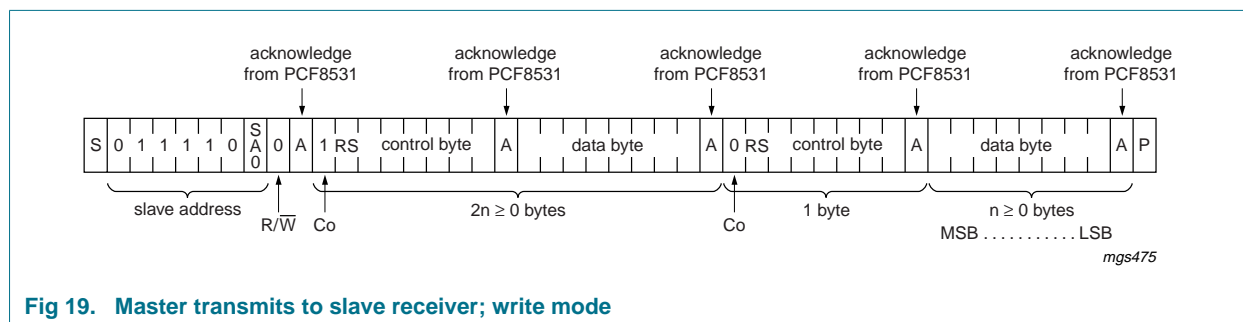

Fig 19. Master transmits to slave receiver; write mode
The sequence is initiated with a START condition (S) from the I²C-bus master, and is followed by the slave address. All slaves with the corresponding address acknowledge in parallel, all others ignore the I²C-bus transfer. After acknowledgement, one or more command words follow, which define the status of the addressed slaves. A command word consists of a control byte, which defines Co and RS, plus a data byte (see Figure 19 and Table 11).